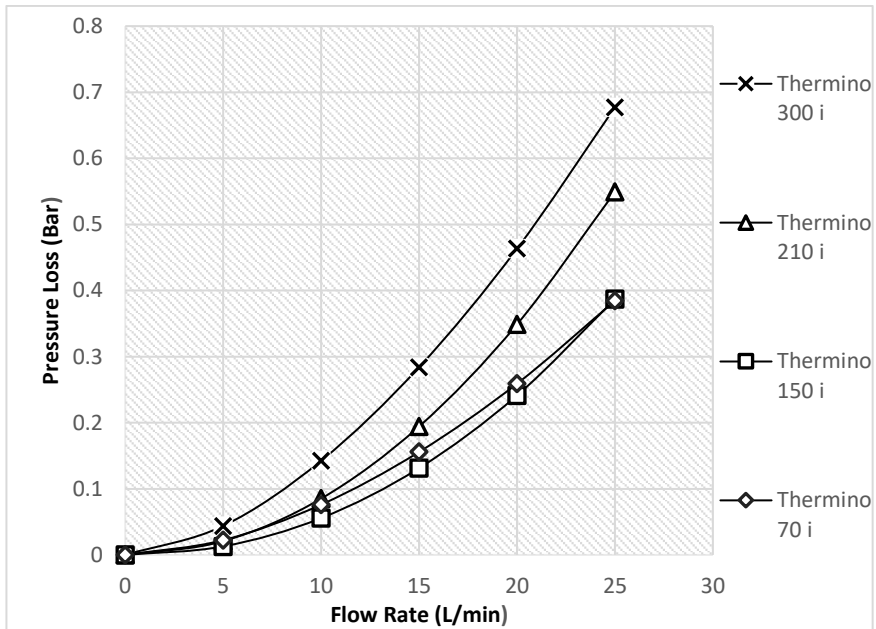
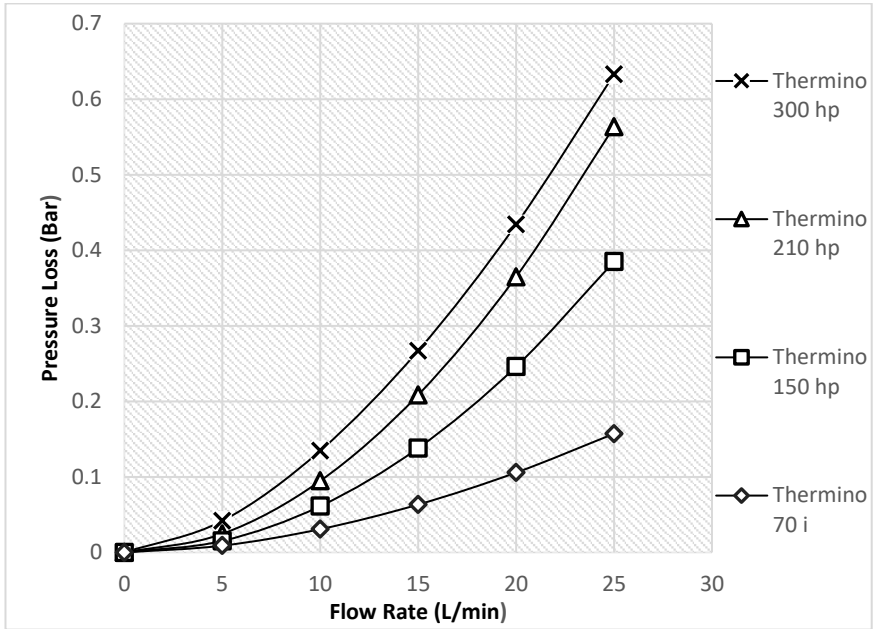
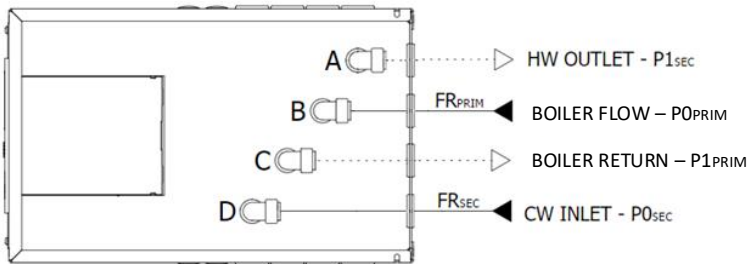

Figure 6.1: Thermino i Heat Battery Primary circuit pressure loss characteristics graph
Figure 6.2: Thermino i Heat Battery Secondary circuit pressure loss characteristics graph
Figure 6.3: Pressure loss at inlet & outlet of the heat battery
For the primary circuit of the heat battery, the pressure loss values can be read in (Figure 6.1). The heat battery is connected to the Boiler flow and return as shown schematically in (Figure 6.3).
For the secondary circuit of the heat battery, the pressure loss values can be read in (Figure 6.2). The heat battery is connected to dwelling hot water circuit as shown schematically in (Figure 6.3).
Note: The mains cold water inlet connects to port D; Hot water outlet connects to port A. Meanwhile the Boiler flow pipe connects to Port B and the Boiler return pipe connects to Port C (Figure 6.3).
- Mains cold water supply should be connected to Heat Battery connection 'D'. The hot water outlet should be connected to 'A'. External heating source Flow should be connected to Heat Battery connection 'B' and External heating source Return should be connected to Heat Battery connection 'C'. (see Figures 6.3, 11.1 and 12.1).